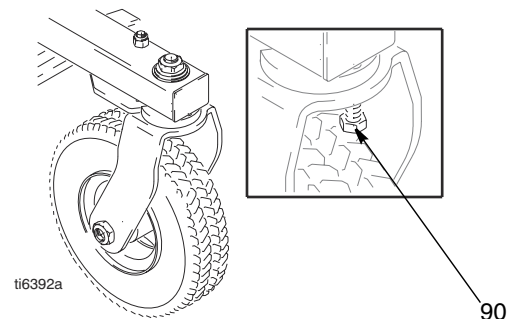

FIG. 1
7. Install screws (34) in drive housing. Torque evenly to note 3 value in Fig. 1.
9. Install front cover (52) with two screws (32).
① Oil
② Pack with bearing grease 110293
③ Torque to 130 - 150 in-lb (14 - 16.9 N.m)